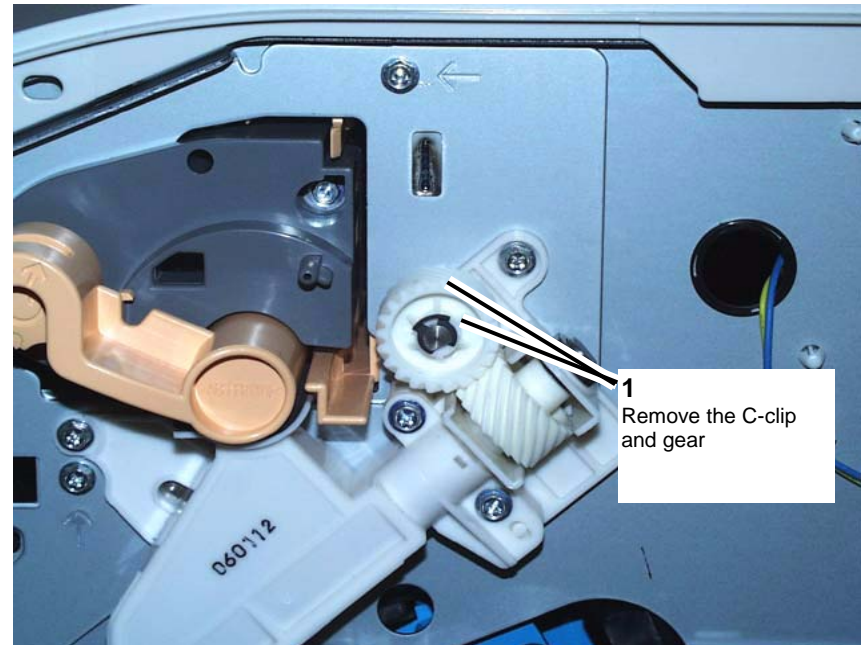

Figure 3 Removing the Waste Auger C-clip and drive gear
7. Remove the Waste Auger drive gear. (Figure 3)